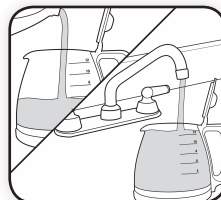

Figure 30
- 1 Fill the carafe with a solution of equal parts water and vinegar and let the solution stand in the carafe for approximately 20 minutes. (Figure 30)